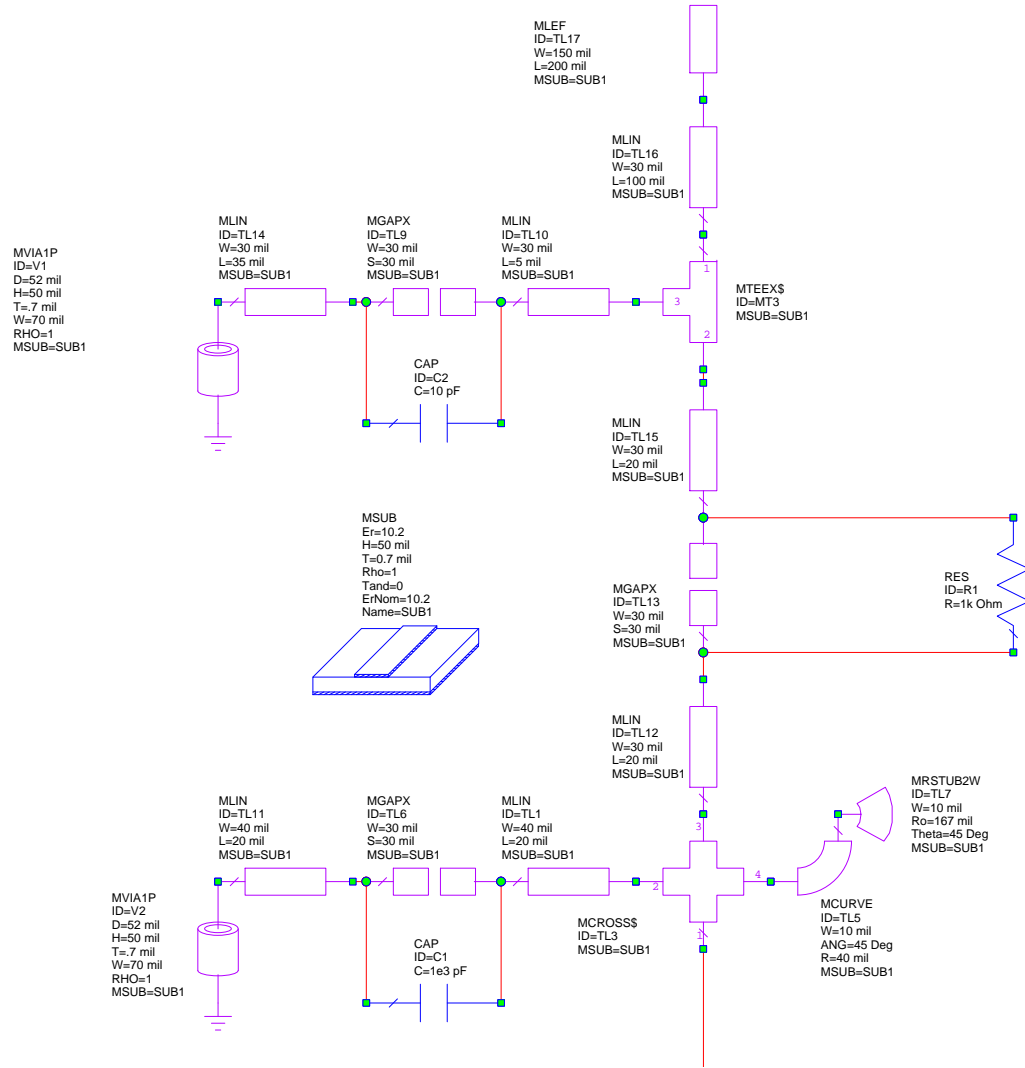

Figure 9: Collector load and bias circuit.
33. On the fourth port of the microstrip cross, I placed a 100 Ω bias resistor for the collector and at its exit some more decoupling capacitance and a bias pad. The upper half of the bias circuit appears as shown in Figure 9.